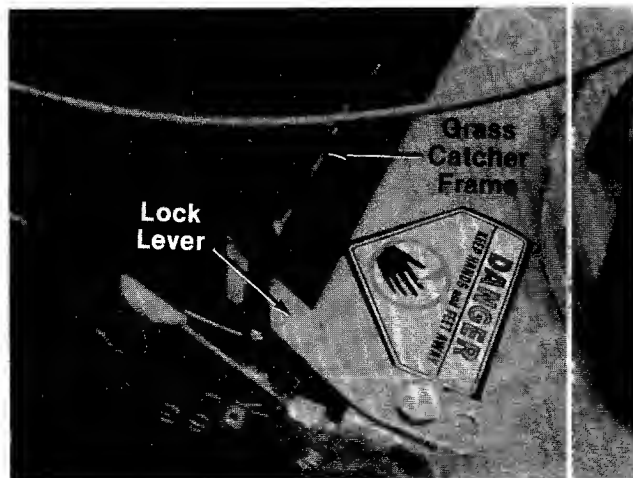

FIGURE 15.
The grass catcher frame will snap into place, secured by the lock lever. See figure 15.
- To remove the grass catcher, unhook the lock lever and slip the grass catcher off the unit. See figure 15.